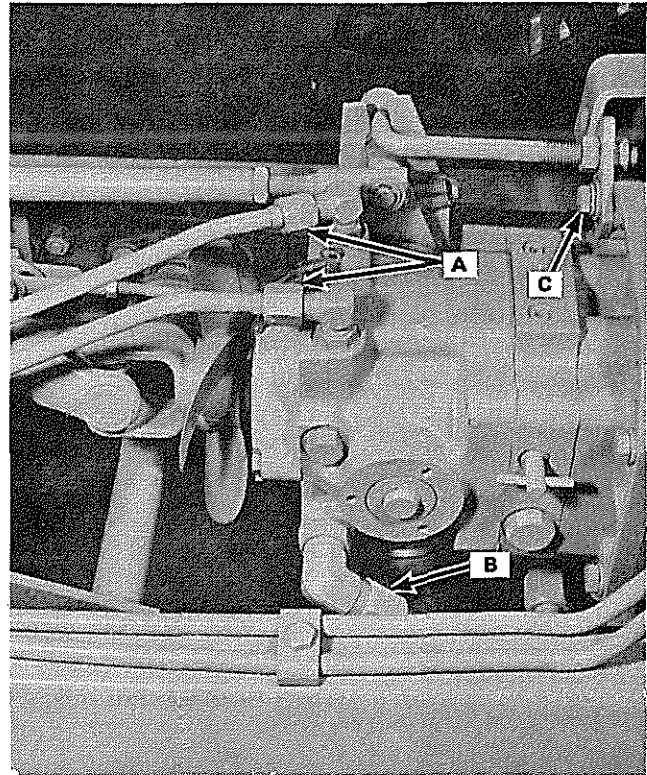

FIGURE 3-9
3. Disconnect hydraulic lines (Reference "A" fig. 3-9).
4. Install the two oil line fittings and pickup tube fitting (fig. 3-9). Do not tighten packing nuts so fittings can be adjusted to lines.
14. Loosen pick-up tube line at hydro end, (Reference "B" figure 3-9) until fluid leaks out. Retighten.